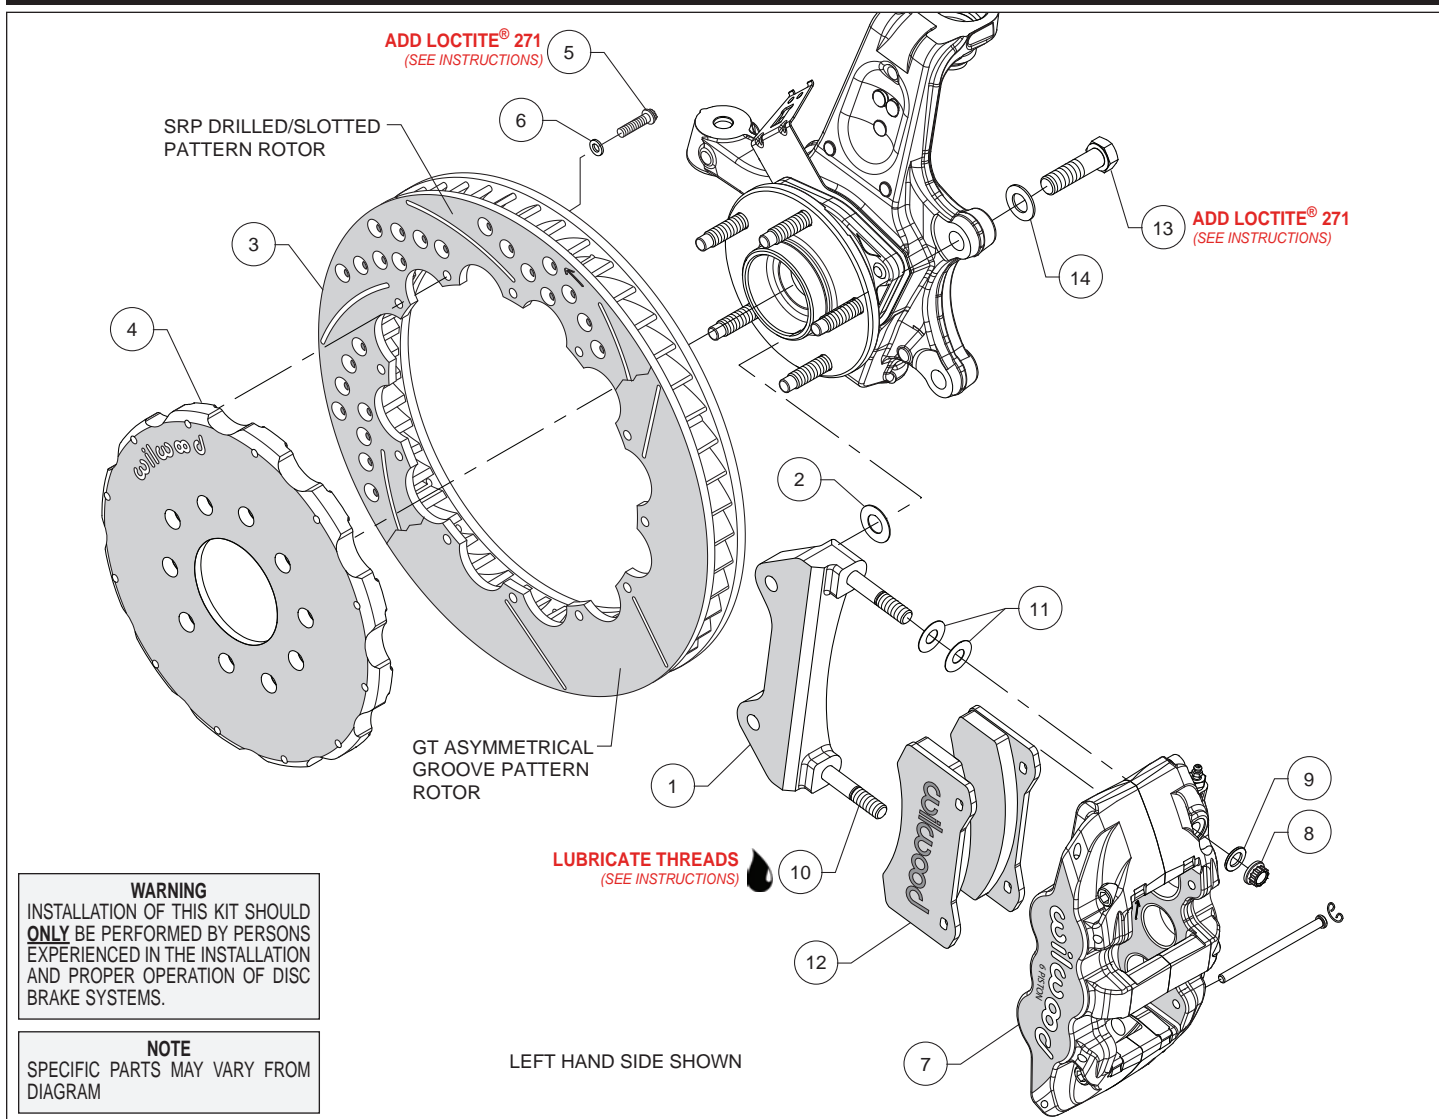
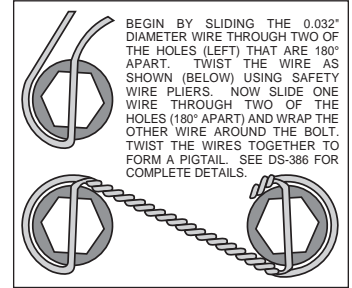

Figure 1. Typical Installation Configuration
Figure 3. Safety Wire Diagram
Assembly Instructions (numbers in parenthesis refer to the parts list and Figure 1 on the preceding pages):
- The caliper mount bracket (1) should initially be installed with clean, dry threads on the mounting bolts. Orient the bracket, as shown in Figure 1 and install using bolts (13) and washers (14). Initially place one .029" thick shim (2) on each bolt between the bracket and upright, Figure 1. Temporarily tighten the mounting bolts. **NOTE:** *The bracket must fit squarely against the mount bosses on the upright.* Inspect for interference from casting irregularities, machining ridges, burrs, etc. Later, after the caliper alignment has been checked, the mount bolts will be secured using red *Loctite*[®] 271.
- Orient the rotor (3) and the hat (4) as shown in Figure 1 and Photo 1. Attach rotor to hat using bolts (5) and washers (6). Using an alternating sequence, apply red *Loctite*[®] 271 to the threads, and torque to 155 **in-lbs**. For an added measure of security, the bolts may be safety wired using standard 0.032 inch diameter stainless steel safety wire as shown in Figure 3. Refer to Wilwood's data sheet DS-386 (available at www.wilwood.com/Pdf/DataSheets/ds386.pdf) for complete safety wire installation instructions.
- NOTE:** *This kit contains distinct right and left hand calipers that must be mounted in a specific direction, as described below.* Lubricate the caliper mounting studs (10) with lightweight oil. Initially place two .030" thick shims (11) on each stud between the caliper and the bracket, as shown in Figure 1 and Photo 2. Mount the caliper (7) onto the bracket (1) using lock nuts (8) and washers (9), Figure 1. Temporarily tighten the lock nuts. Ensure that the caliper is mounted so the largest pistons are at the rotor exit end of the caliper, in relation to the direction of the rotor. View the rotor through the top opening of the caliper. The rotor should be centered in the caliper, Photo 3. If not, adjust by adding or subtracting shims (2) between the bracket and the upright. Always use the same amount of shims on each of the two mounting bolts. Once the caliper alignment is correct, remove the bracket mounting bolts one at a time, apply red *Loctite*[®] 271 to the threads, and torque to 77 ft-lbs.
- Remove the two pad retaining pins from the caliper (7) by carefully popping out the pin retaining clips and sliding out the pins. Insert the brake pads (12) into the caliper from the bottom, Figure 1 and Photo 4. With the friction material facing the rotor, secure the brake pads in place with the pad retaining pins and clips, Photo 5. Reinstall the caliper onto the caliper mounting bracket and temporarily tighten the lock nuts. Check that the top of the brake pad is flush with the outside diameter of the rotor, Photo 6. If not, adjust by adding or subtracting shims (11) between the caliper and the bracket. After the caliper pad height is set, torque the caliper lock nuts (8) to 47 ft-lb.